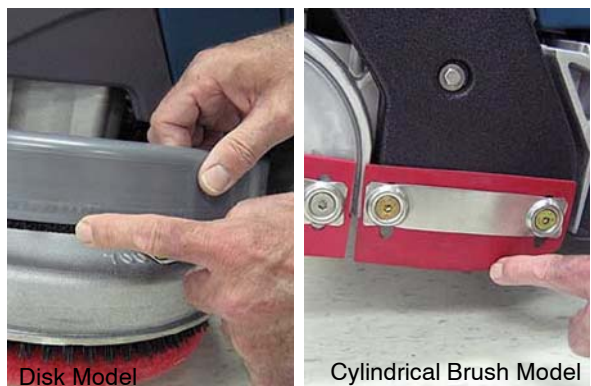

FIG. 68
12. Inspect the condition of the scrub head skirt, replace if worn or damaged (Figure 68).